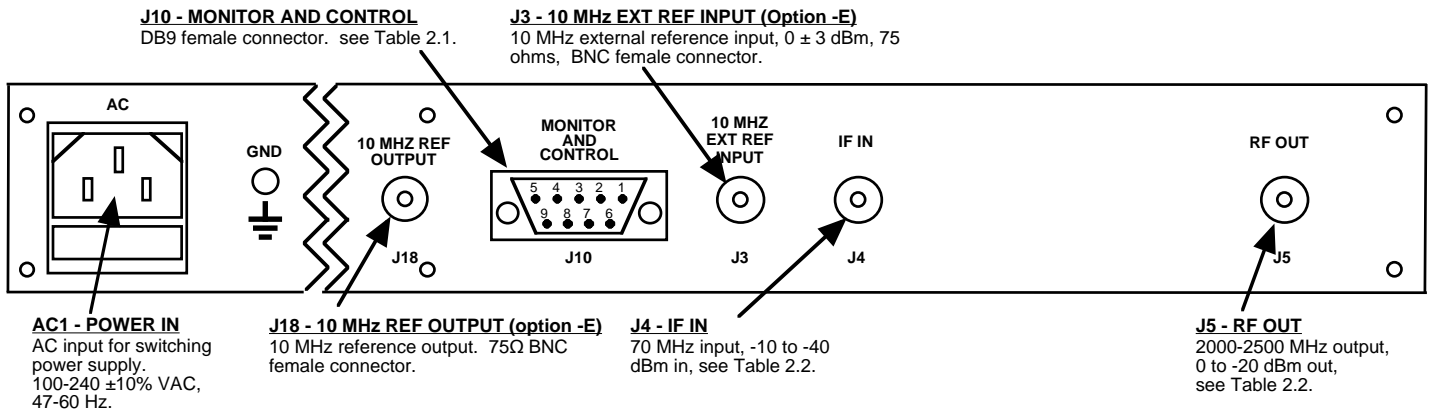

FIGURE 2.2 2015-25 Rear Panel I/Os
2.2 Rear Panel Input/Output Signals - Figure 2.2 shows the input and output connectors on the rear panel.
1. Connect a -10 dBm to -40 dBm signal to IF In, J4 (Figure 2.2)